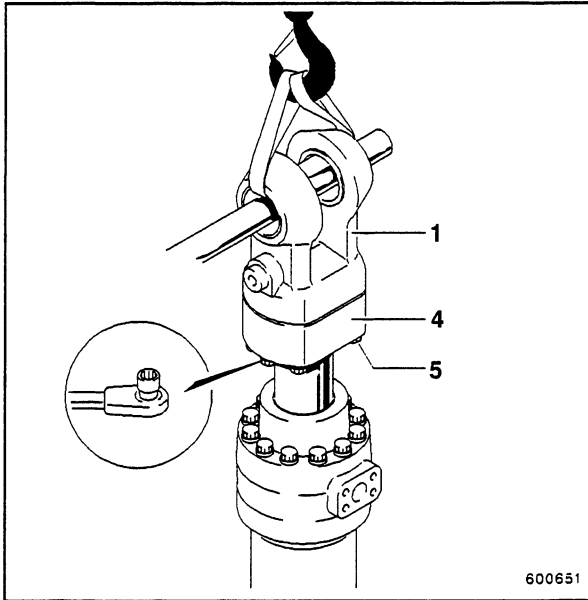

Fig. 7
- Attach lifting tackle to eye and loosen bolts (5, Fig. 7).